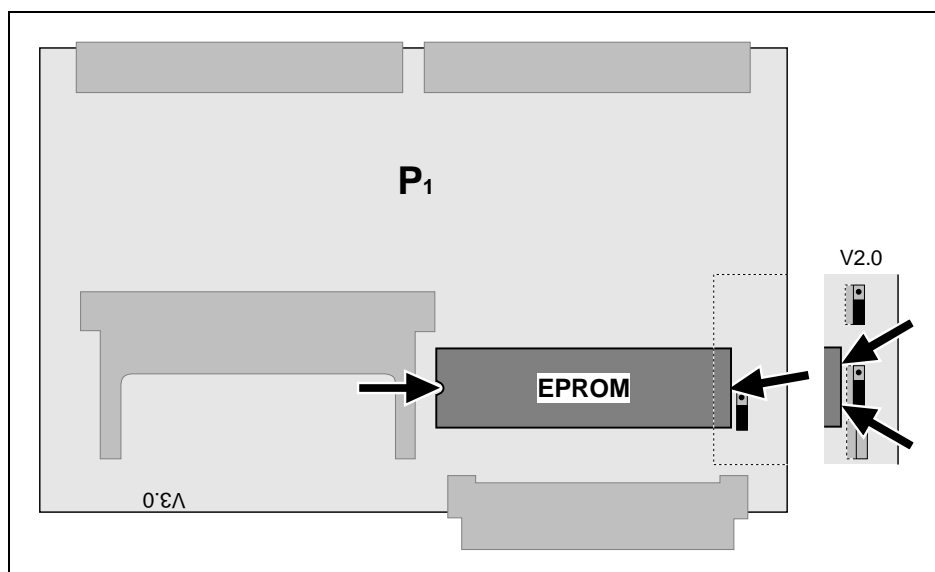
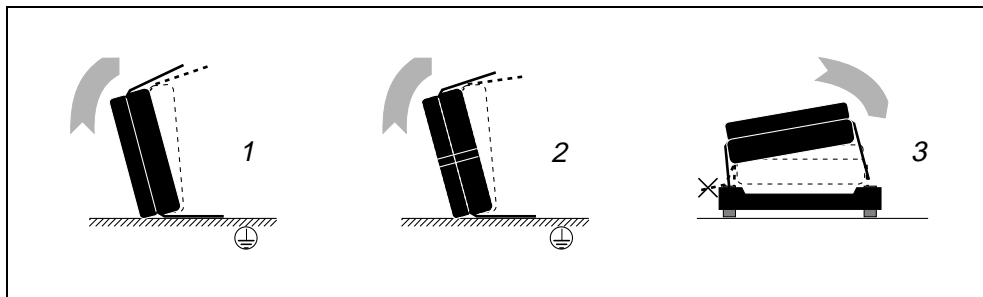

Fig. 2
Fig. 3
- ✓ Lever the EPROM alternately at both sides as illustrated in Fig. 2
The two jumpers and the capacitor on the right side of the EPROM (Fig. 2) must not be bent back into the vertical position as otherwise the module cannot be pushed in.
- ✓ Check if the pins of the new EPROM show the correct angle for the socket. If not, bend the pins to the required measure according to Fig. 3, parts 1 and 2
- ✓ Insert the EPROM in the socket considering the correct position (mark on the left side, cf. Fig. 2): Fig. 3, part 3